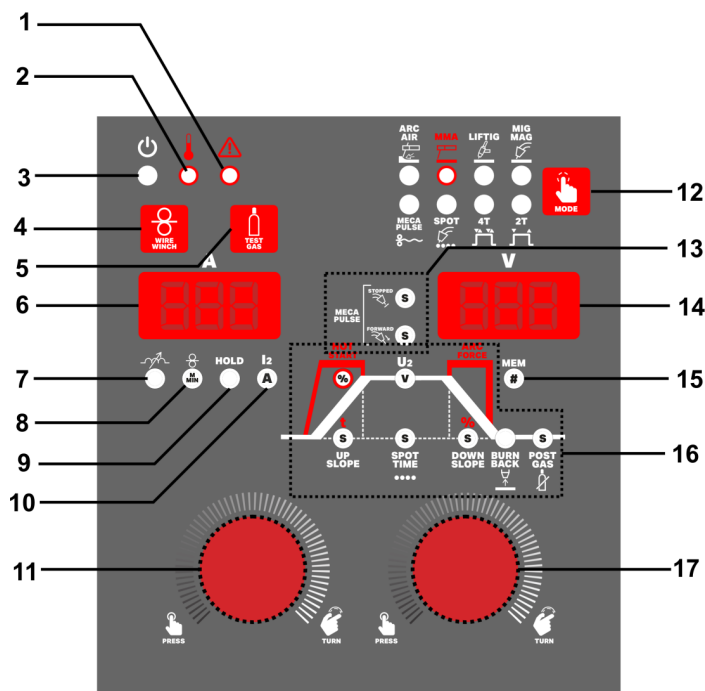

Fig. 1
- Unscrew the retaining nut (1 - Fig.2) to place the wire coil on the wire coil holder (4-fig.1). Confirm that the breaking system (2- Fig.2) is operative, with spindle (5- Fig.2) correctly inserted in the breaking hole (3- Fig.2). After the wire coil is installed, tighten the retaining nut.